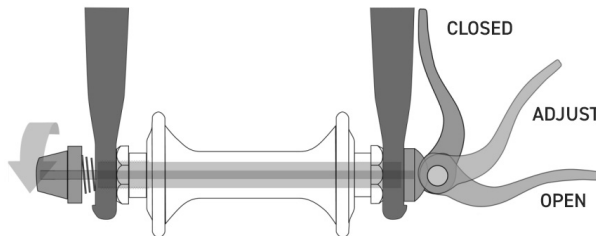

figure 8
- The Quick Release (QR) System / Cam Action System: This mechanism utilizes a hollow axle with a shaft (skewer) running through the hub. It is secured by an adjustable tension nut on one side and an over-center cam lever on the other. The cam lever applies the necessary clamping force to hold the wheel securely in the dropouts. (See figure 8)
Quick Release (Cam Action): Move the cam lever from the LOCKED (CLOSED) position to the OPEN position (See figure 8).